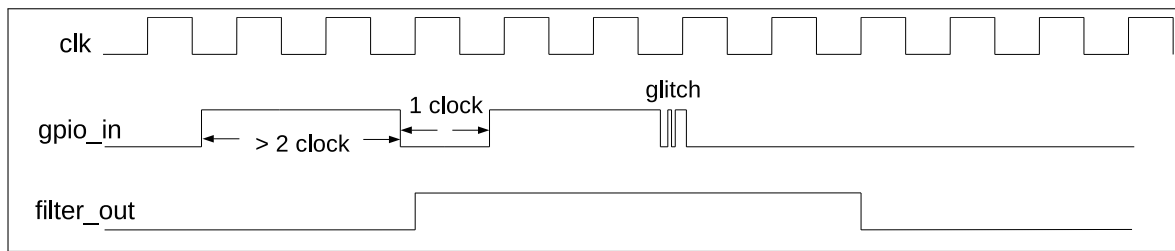

Figure 5.4-2. Filter Timing of GPIO Input Signals
2. Optionally enable the filter for pin input signals by setting `IO_MUX_GPIOn_FILTER_EN`. Only the signals with a valid width of more than two clock cycles can be sampled, see Figure 5.4-2.